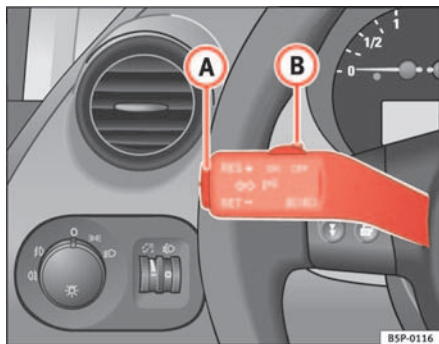

Fig. 141 Turn signal and main beam lever: switch and rocker switch for CCS
- Press the upper part of the rocker switch **RES** ⇒ fig. 141 **A** to increase speed. The vehicle will continue to accelerate for as long as you keep the rocker switch pressed. When you release the switch, the new speed is stored.
Control of the set speed is switched off if you reduce speed by depressing the brake pedal. You can reactivate the control by pressing once on the upper part of the rocker switch **RES+** ⇒ fig. 141 **A**.